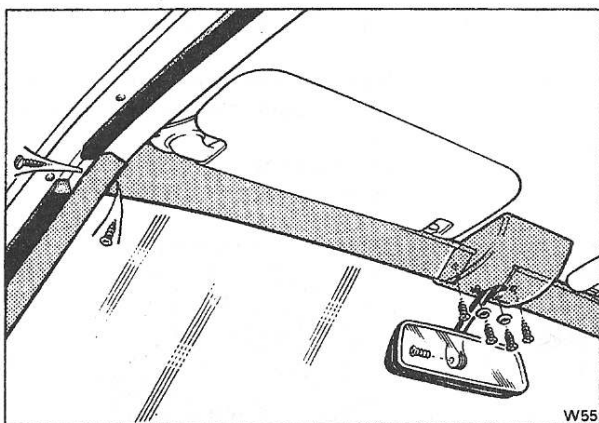

Fig. S136 Windscreen interior trim (Corniche Saloon)
4. Carefully peel back the top forward corners of the door aperture seals to gain access to the screw retaining the top of each trim cover to the 'A' posts; remove the screws (see Fig. S136).
6. Remove the two screws and cup washers securing the mirror stem and mounting assembly trimmed cover to the header panel; release the spring clip and remove the cover (see Fig. S136).
7. Remove the self-tapping screws retaining the outer corners of the header trim panels then release the spring clips and remove the panels (see Fig. S136).